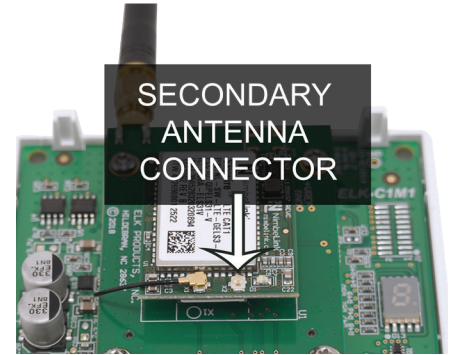

FIGURE 1
2. Remove the front cover from the C1M1 unit. Locate the secondary antenna connector on the C1M1 cellular card (See Figure 1).